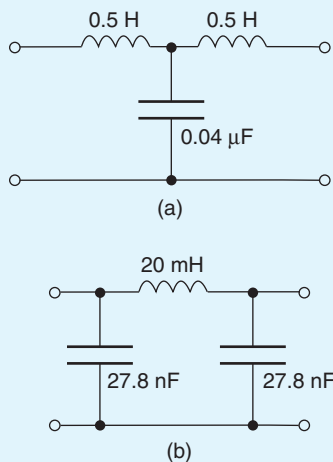

Figure 17.11
- Determine the cut-off frequency and the nominal impedance of each of the low-pass filter sections shown in Fig. 17.11.